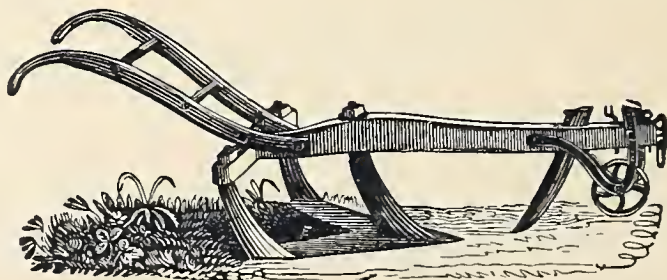

Fig. 297. — Paring Plow.
*The Paring Plow*, represented by *Fig. 297*, is used for paring turf-lands preparatory to burning. The share is thin and flat, made of wrought-iron and steel.